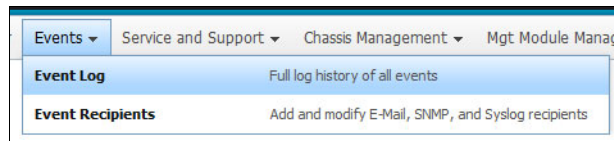

Figure 7-8 CMM Events drop-down menu
- Events, as shown in Figure 7-8